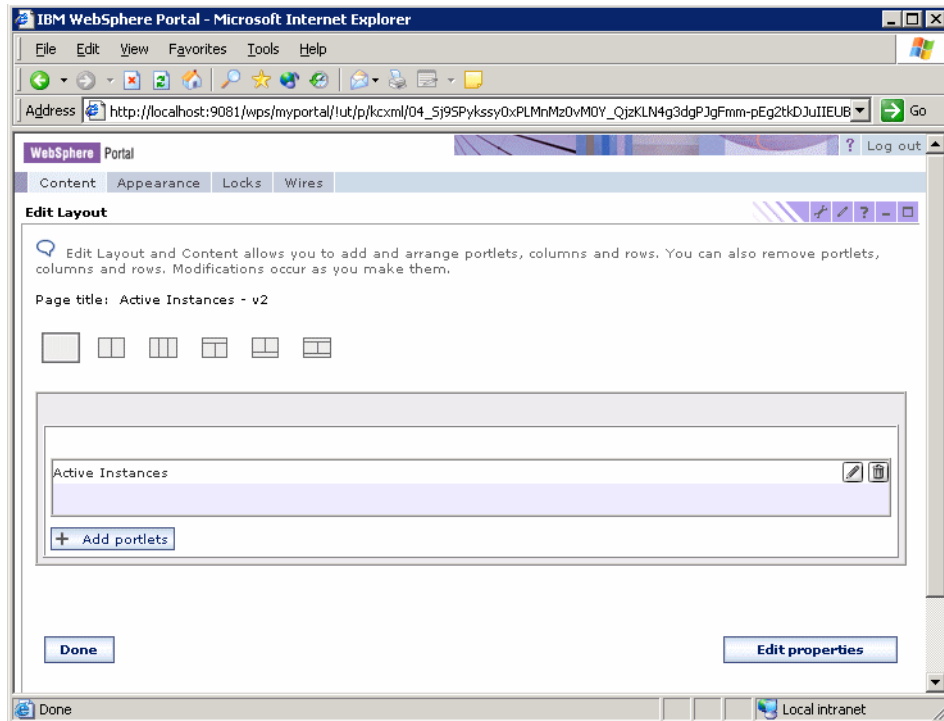

Figure 12-28 Active instances: Add portlets
- For each page that you add, click on the configure page icon  to add the portlets you want to add to a given page (Figure 12-28).